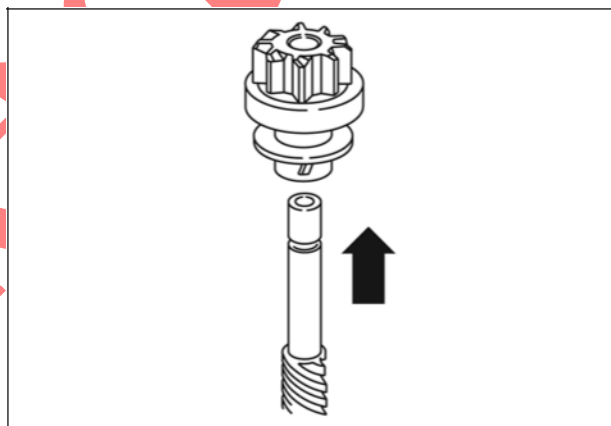

Figure 54
5. Install new upper retainer. Push on upper retainer until snap ring snaps into groove into retainer (Figure 54).